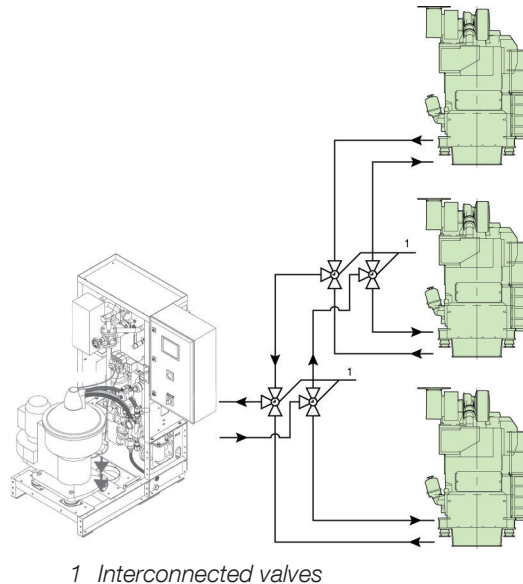

Figure 4: One common separator unit for multi-engine plant
- A common separator unit (*see figure 4*) can be installed, with one in reserve, if possible, for operation of all engines through a pipe system, which can be carried out in various ways. The aim is to ensure that the separator unit is only connected to one engine at a time. Thus there will be no suction and discharging from one engine to another.